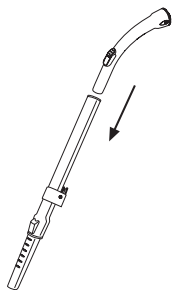

Figure 2
(2) Fitting the telescopic tube and accessories
a. Fitting the extension tube to the handle. (Figure 2)